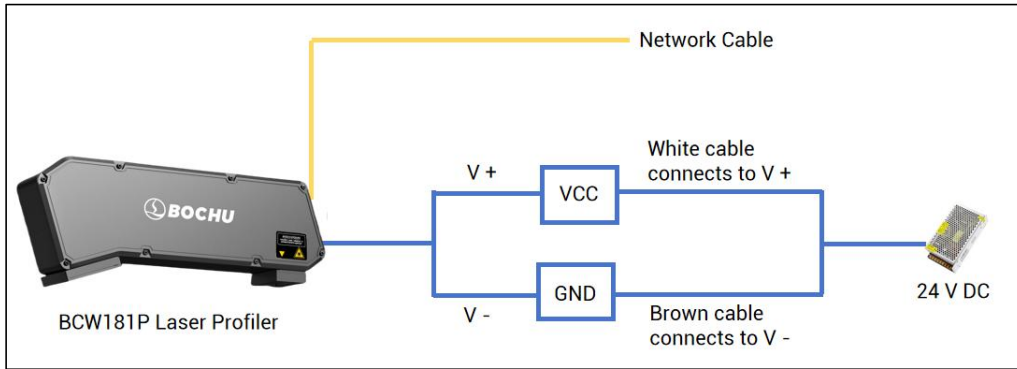
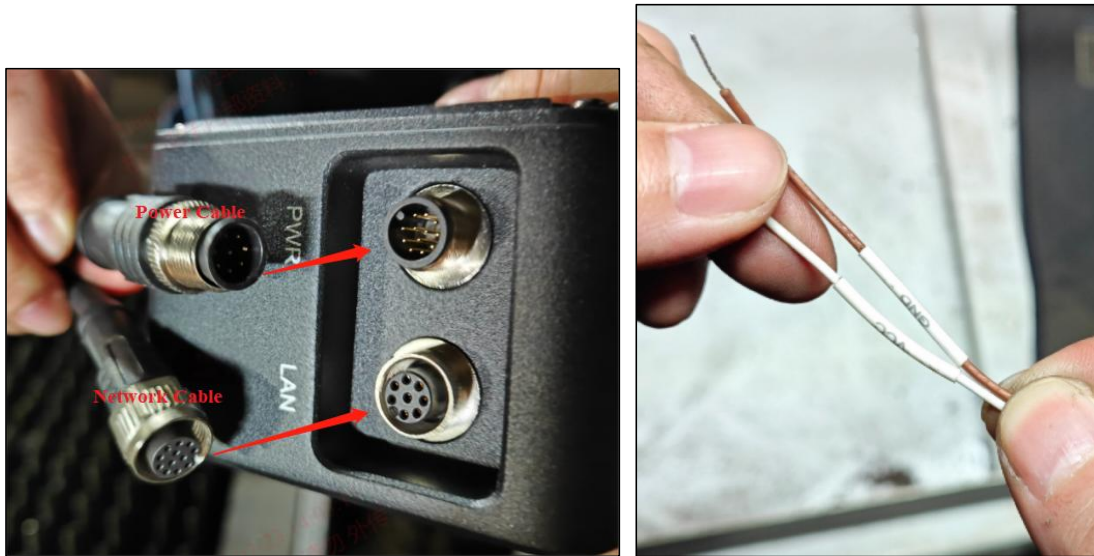

Figure 2-4 Wiring diagram for BCW181P 3D Laser Profiler
Figure 2-5 Wiring diagram for BCW181P 3D Laser Profiler
- IO-XX Towline Power Cable: One end connects to the Profiler, and the other end connects to the 24 V switch power supply. For the power cable, the brown wire connects to the V- terminal of the 24 V power supply; the white wire connects to the V+ terminal of the 24 V power supply, as shown in Figure 2-4 and Figure 2-5.